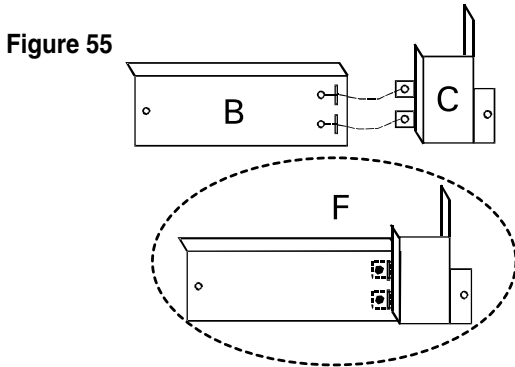
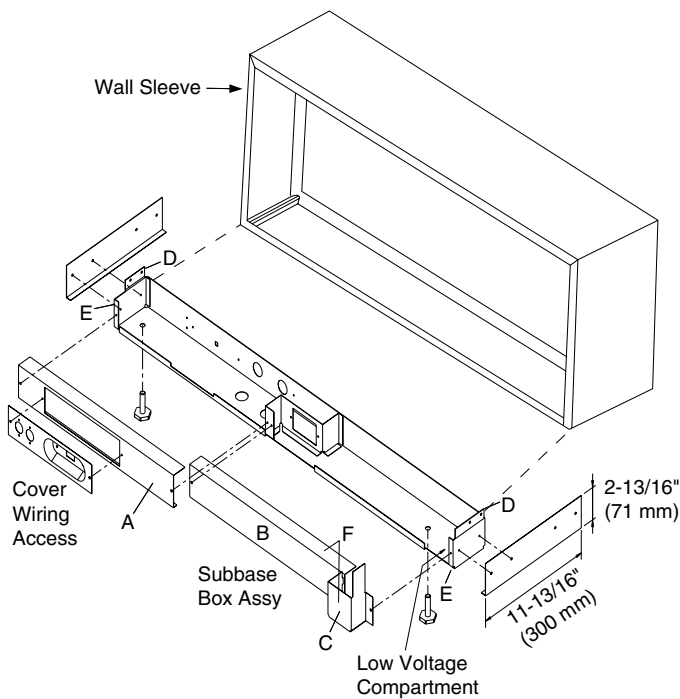

Figure 57 - Part/Location Identification
Figure 58 - Dimensions
1. Remove parts B and C (Figure 57, next page) from the subbase and join together using two metal screws provided. This assembly now becomes the right front cover (Part F) of the subbase. (Figure 56, next page)
3. Align the back edge of the flange on cover A (Figure 57, next page) to front of the wall sleeve flange. (Figure 58, next page)
4. Drill four 1/8 inch holes in wall sleeve to line up with holes in subbase. (Figure 57, Location D, next page) Mount subbase to wall sleeve with four sheet metal screws provided with kit. (Figure 57, Location D, next page)
5. Remove the left front cover from the subbase. (Figure 57, Part A, next page)
6. Position skirting on each side of wall sleeve to prevent the entry of foreign materials. Trim skirting to desired length. Attach skirting with four sheet metal screws provided with kit. (Figure 57, Location E, next page)
8. After wiring is complete, mount covers A and F to the subbase with provided screws. (Figure 57)